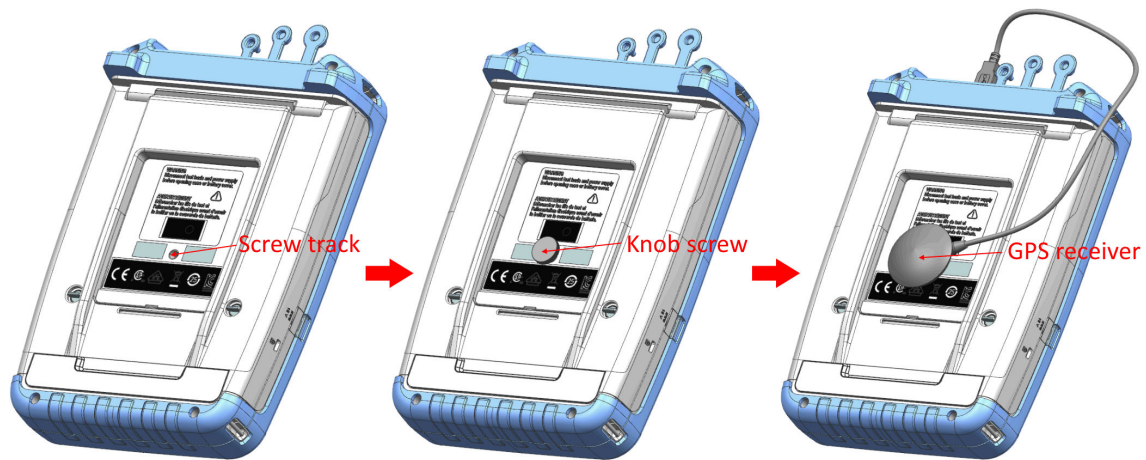

Figure 6-8: Location of GPS receiver
- The GPS receiver can be conveniently attached to the knob screw as shown in Figure 6-8.